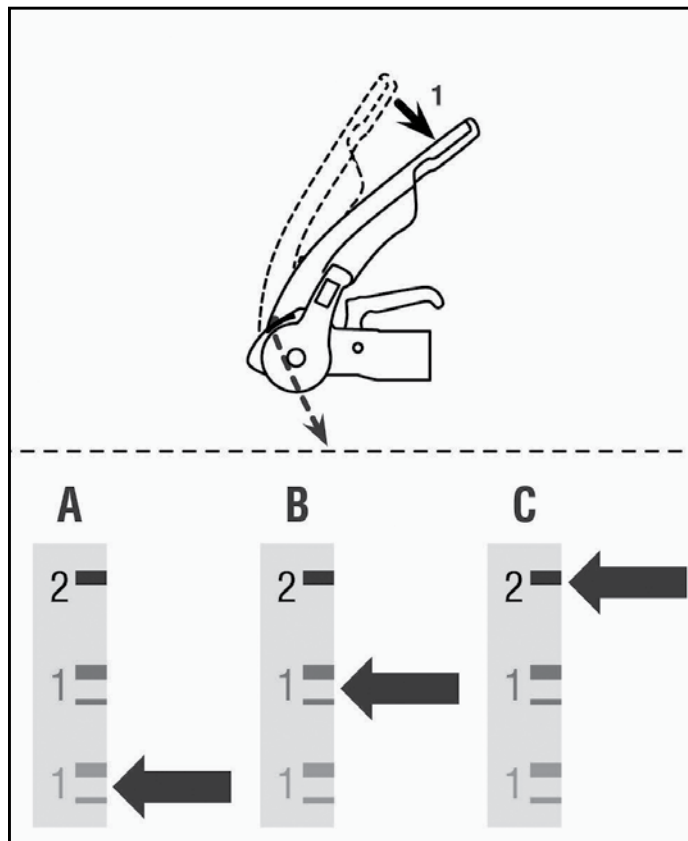

Fig 5.
2. Push the stabiliser lever (fig 5/item 1) down until resistance is felt (i.e. the friction pads are in contact with the ball but not yet under pressure.)
3. Check the position of the arrowhead on the arm of the stabiliser. If it lines up with the two green lines then the friction pads are still as new (Fig 5/A)
When the stabiliser lever is correctly applied, the arrowhead should link up with the black line marked 2 (Fig 5/C)